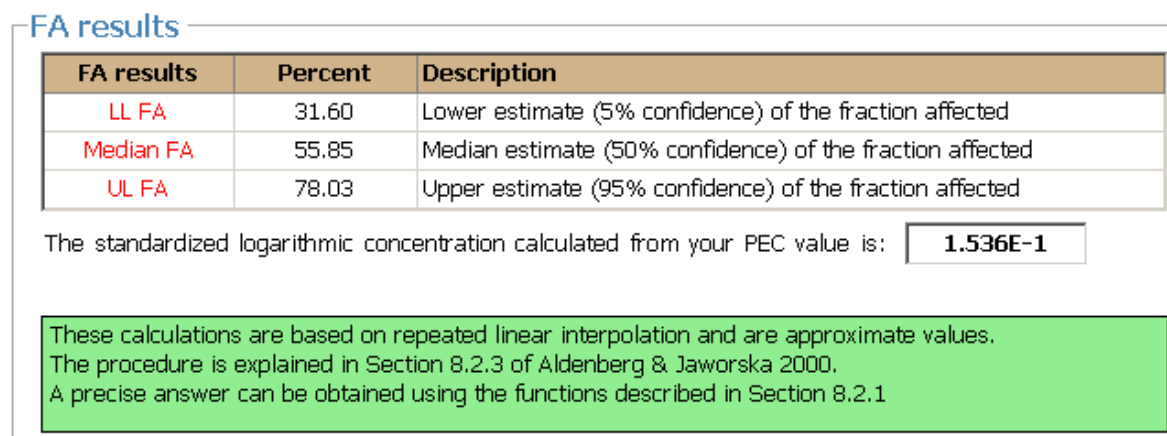

Figure 29. The fraction of species affected by 12 mg/kg Cd.
- The upper half of this sheet (the **FA results** box) shows your result (Figure 29): the median percentage of species in the soil that will be affected by this Cd concentration is 55.9%. The variation in the data tells you that there is 90% confidence that the percentage of affected species is between 31.6% and 78%.